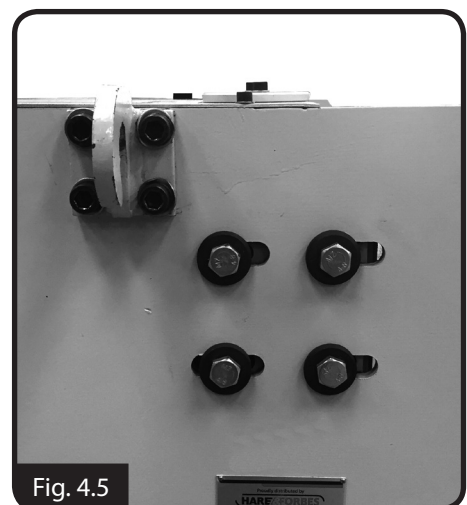

Fig. 4.5
2. Loosen the 4 bolts (A in Fig.4.5) on both sides of the machine. The bolts should be only loosened enough to allow the blade to move.
4. Tighten the 4 bolts on the outside of the side plates on both sides of the machine. (A in Fig.4.5)